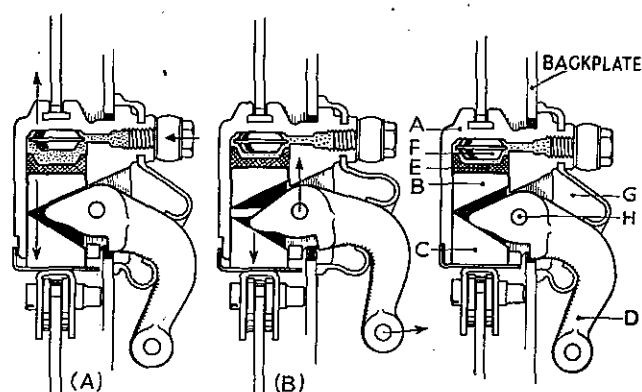

Fig. 3
(See Fig. 3)
The wheel cylinder (A) contains a single piston split in two, the inner piston (B) being hydraulically operated while the outer piston (C) is manually operated by the hand brake lever (D). The inner piston is backed by a rubber cup (E) and the space in front of the cup is partially occupied by a cup filler (F). When operated hydraulically, as in (a) of Fig. 3 the inner piston butts against the outer piston, leaving the hand brake lever (D) undisturbed, and applies a thrust to the tip of the leading shoe through the dust cover, "MICRAM" adjuster and mask. When operated manually, as in (b) of Fig. 3, an inward movement of the hand brake lever brings the heel of the lever into contact with the outer piston (C), thrusting it outwards against the leading shoe without disturbing the inner piston. A rubber boot (G) is fitted to exclude foreign matter.